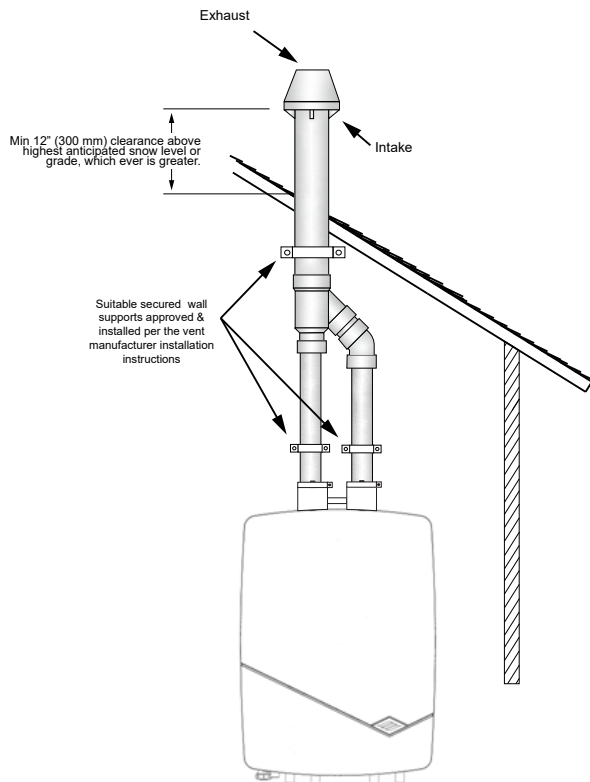

Figure 8.16: CPVC/PVC Two Pipe Roof Terminal Clearances
- For two pipe systems, Inlet & exhaust can be piped to the roof and terminated with a concentric terminal as seen in **Figure 8.16** and **Figure 8.17**.